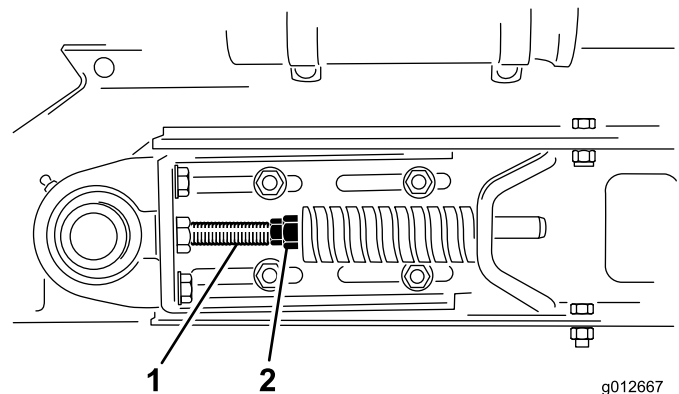

Figure 22
3. Loosen jam nuts and nuts on tension rod to release spring tension (Figure 22).